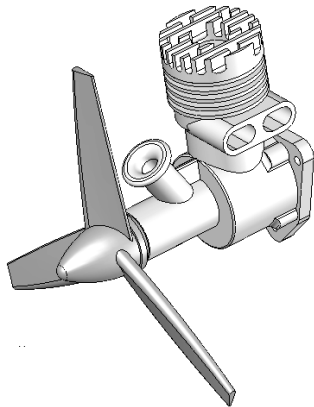

Figure 1-1 An Internal Combustion Engine (Unexploded View)
*Mechanism Design* is a computer software tool that supports engineers in analyzing and designing mechanisms. *Mechanism Design* is a module of the *Pro/ENGINEER* product family developed by *Parametric Technology Corporation*. This software supports users in creating virtual mechanisms that answer general questions in product design such as those described next. An internal combustion engine shown in Figures 1-1 and 1-2 will be used to illustrate some typical questions.